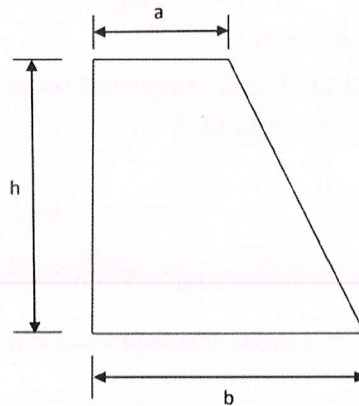

Fig.16
- 7 a Find the centroid of the section of a masonry dam as shown in the Fig.16 6M